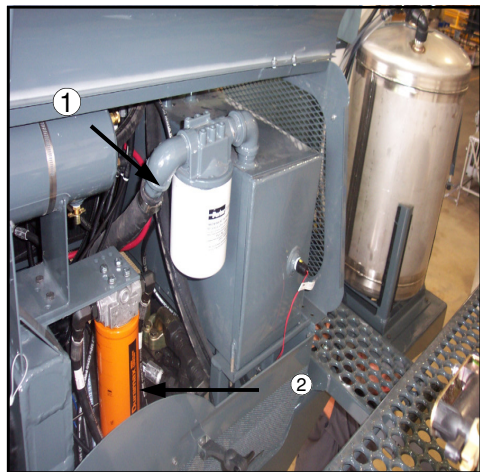

FIG 62-2
Remove and install a new 10 Micron rated suction filter (fig. 62-2, item 1) at the end of the first 50 hours of use; subsequently, replace the filter every 250 hours, or once a year, whichever comes first.
Remove and install a new 4 Micron rated charge pressure filter (fig. 62-2, item 2) at the end of the first 50 hours of use; subsequently, replace the filter every 250 hours, or once a year, whichever comes first.